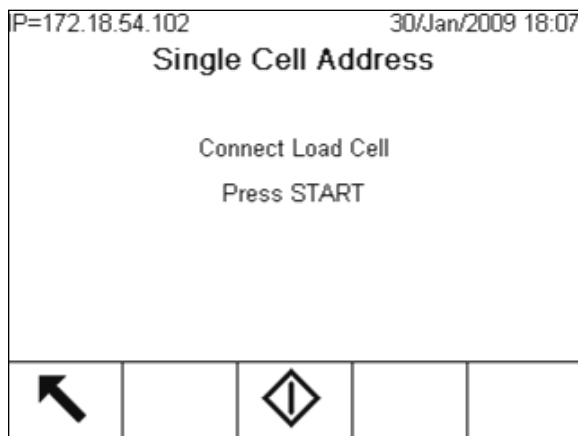

Figure 3-11: Single Cell Address Start Screen, PDX
1. The initial screen indicates to Connect the Load Cell, and prompts (Figure 3-11):